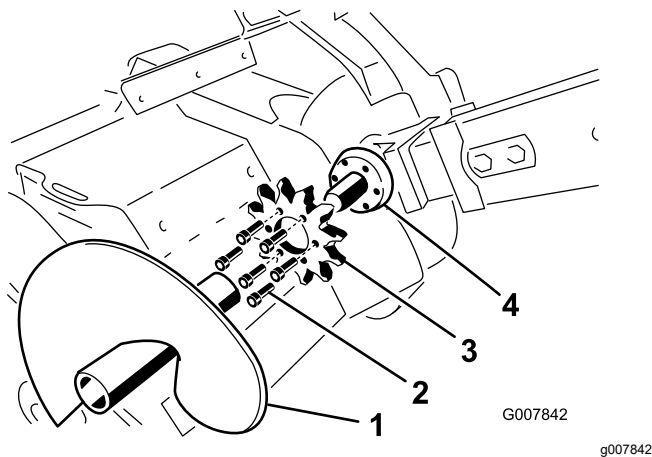

Figure 61
4. Remove the spoils auger (Figure 61).
9. Remove the 6 bolts securing the drive sprocket (Figure 61).
10. Remove and discard the drive sprocket (Figure 61).
11. Clean the sprocket mounting surface on the trencher (Figure 61).
12. Slide the new sprocket onto the shaft (Figure 61).
13. Thread the 6 bolts into the sprocket finger tight (Figure 61).